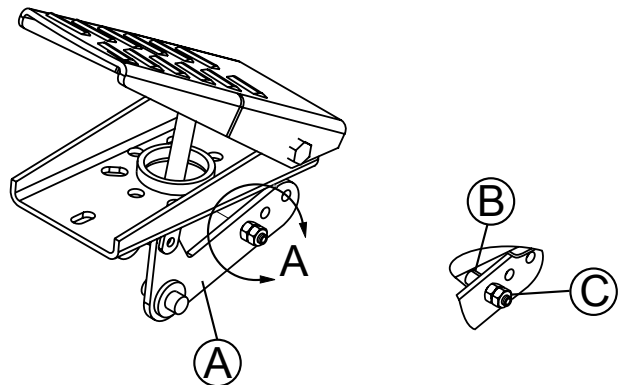

Figure 24. Sensor Adjustment
2. Using 7/16 wrench, rotate foot pedal shaft (Item B, Figure 24) , while holding foot pedal lever (Item A, Figure 24) in upright position, until % sensor voltage is 15% to 25%.
3. Verify that jamb nuts are tight (Item C, Figure 24)